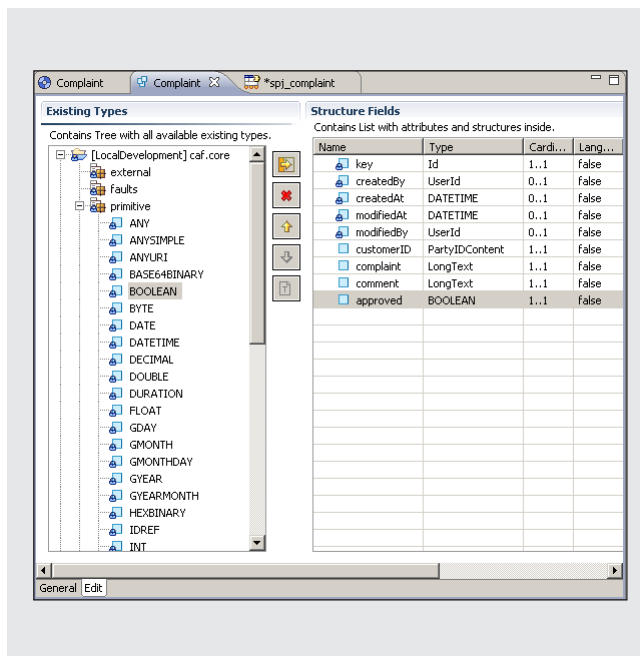

Figure 6 Defining the Complaint business object
6. Repeat the assignment of fields (complaint, comment, and approved) so that your final business object looks like the one in **Figure 6**.